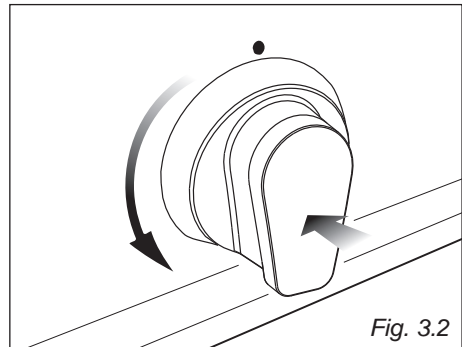

Fig. 3.2
1. Push and turn the knob in an anticlockwise direction up to the  position (maximum rate), push in and hold the knob until the flame has been lit (fig. 3.2).